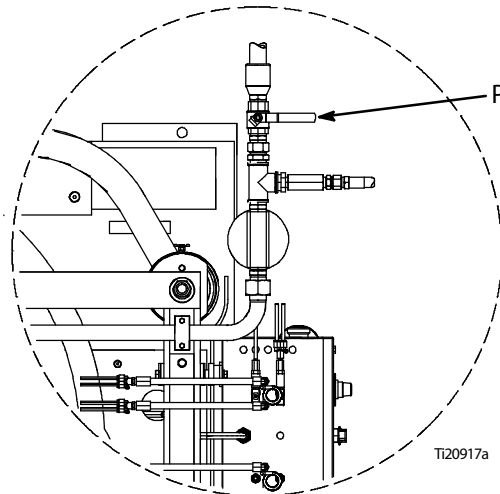

FIG. 15
To stop the system, close the Main Air Shutoff Valve (P) (see FIG. 15) to the Supply Unit.
1. Open the Main Air Shutoff Valve (P) to the Supply Unit (see FIG. 15).